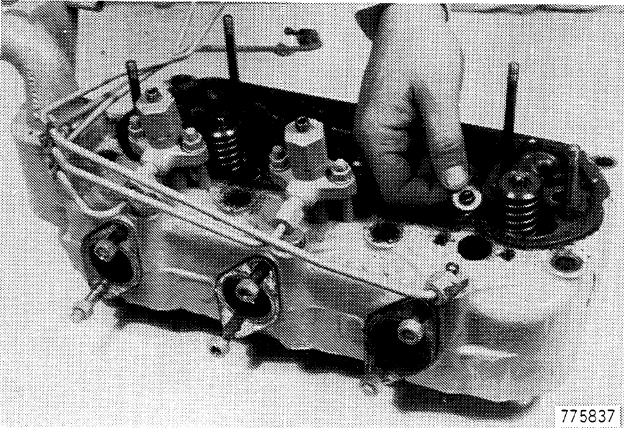

Figure 94
1. Install copper sealing washer in head, Figure 94.